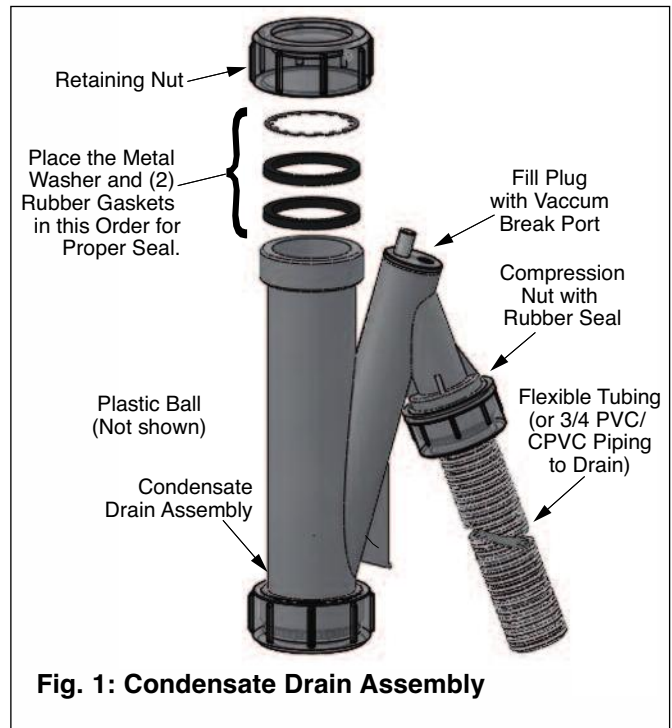

Fig. 1: Condensate Drain Assembly
1. Ensure condensate drain assembly is firmly secured to bottom of heat exchanger/unit. See Fig.1.